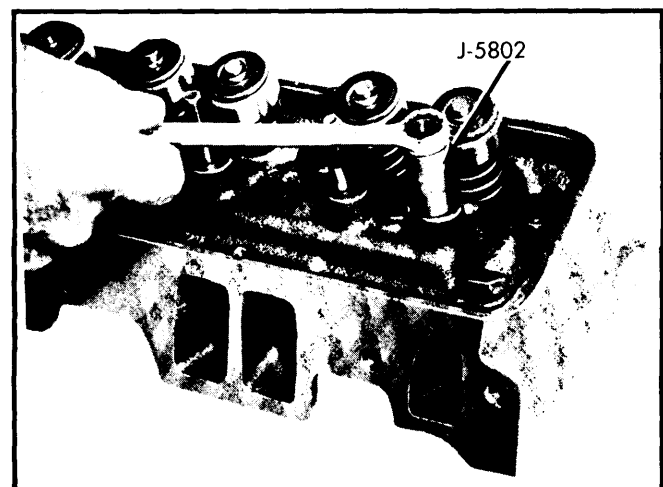
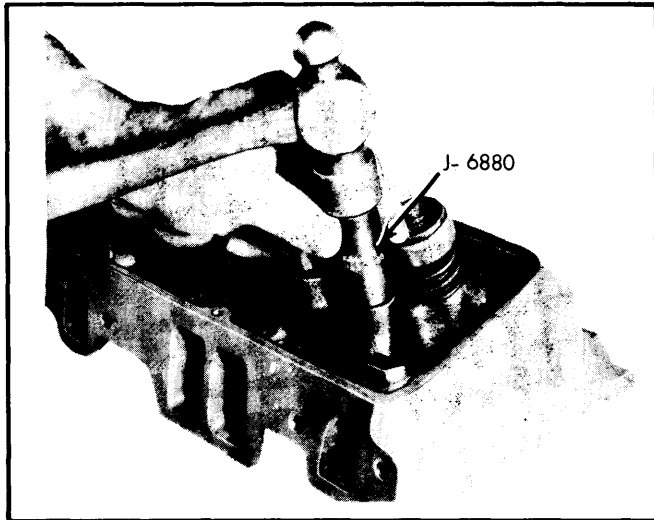

Fig. 6 Rocker Arm Stud Removal
Fig. 7 Rocker Arm Stud Installation
2) To remove old stud use stud removing tool, J-5802 (or equivalent) with washer and nut. See Fig. 6. To install new stud, use installation tool, J-6880 (or equivalent) as a guide. Be sure tool bottoms on cylinder head. See Fig. 7.